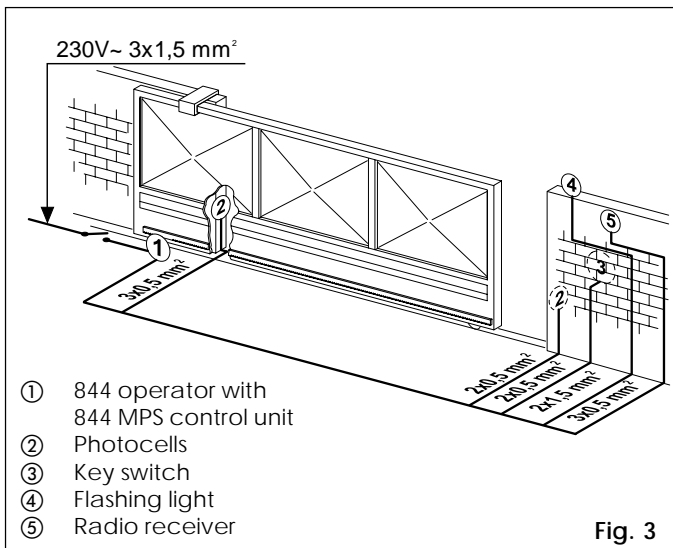

Fig. 3
Gear motor dimensions LxHxD (mm)	see Fig. 3
- 4) Lay the electrical cables for connection to the accessories and the electricity supply as shown in Fig. 3. For ease of connection, ensure that the cables protrude by about 45 cm from the hole in the base plate (Figs. 5-6 ref. ❶).